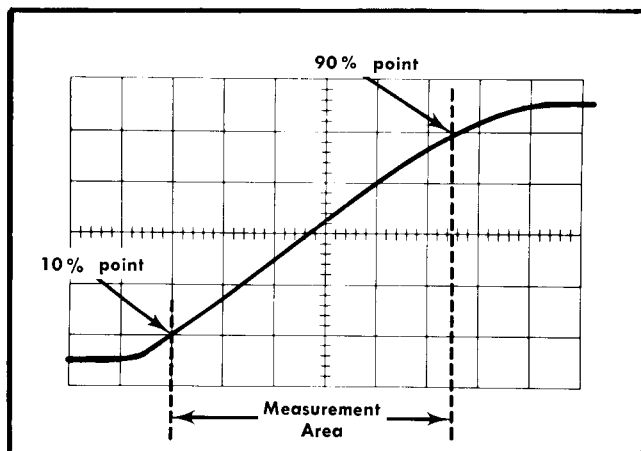

Fig. 2-6. Measuring the risetime of a waveform.
3. Center the display about the center horizontal line. With five centimeters of vertical deflection, the 10% and 90% points on the waveform are two centimeters below and two centimeters above the center horizontal line (see Fig. 2-6).
5. Adjust the horizontal position control to center the measurement area on the CRT with the 10% point intersecting a vertical graticule line as in Fig. 2-6.
**Example.** Assume that the horizontal distance between the 10% and 90% points is 5.5 centimeters (see Fig. 2-6) and the MAGNIFIER switch is set to 10 nSEC. Using the formula: